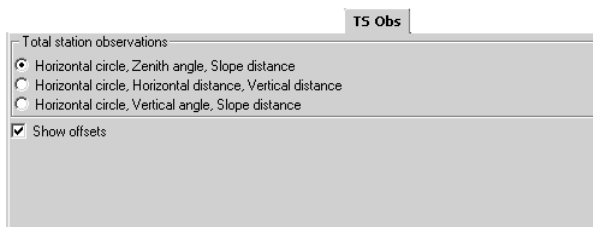

Figure 5-14. TS Obs Tab
- The *TS Obs* tab (Figure 5-14) defines the representation of the Total Station measurements.